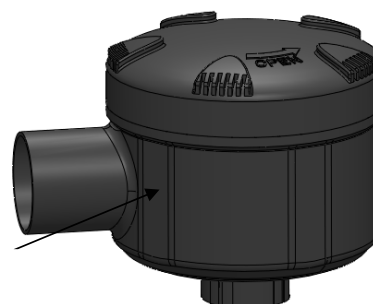

Figure 6
- h. Check, clean, and, if necessary, replace the air filter element. See Figure 6.